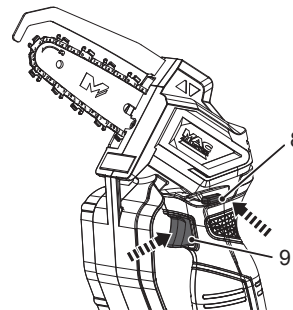

Fig. 12
1. Press the lock-off button (8) and hold it in position (Fig. 12, step 1).
2. Squeeze the on/off switch (9) to switch the product on (Fig. 12, step 2). Release the lock-off button afterward.
3. Release the on/off switch (9) to switch the product off.